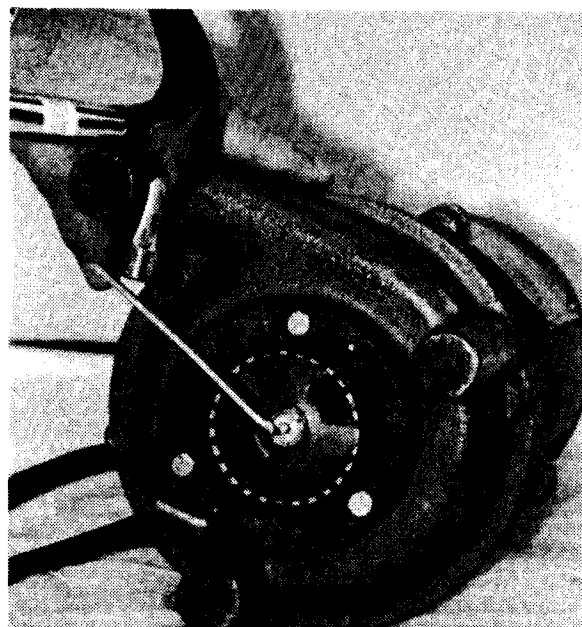

FIG. 2
1. Hold impeller from moving by placing small allen wrench or screwdriver in shredding ring slot and remove socket head screw and washer from pump shaft. See figure 2.